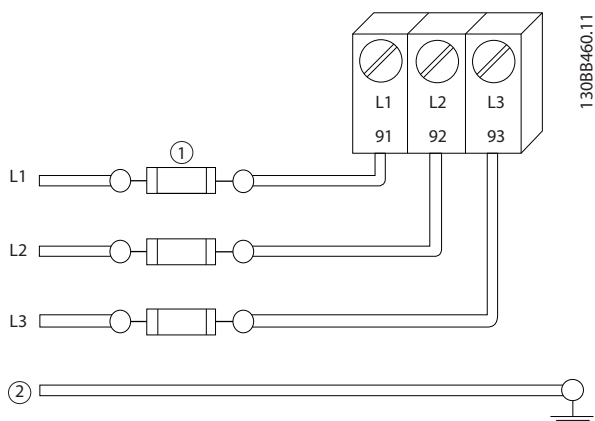

Figure 2.4 Adjustable Frequency Drive Fuses
- All adjustable frequency drives must be provided with short-circuit and overcurrent protection. Input fusing is required to provide this protection, see *Figure 2.4*. If not factory supplied, fuses must be provided by the installer as part of the installation. See maximum fuse ratings in *10.3.1 Protection*.